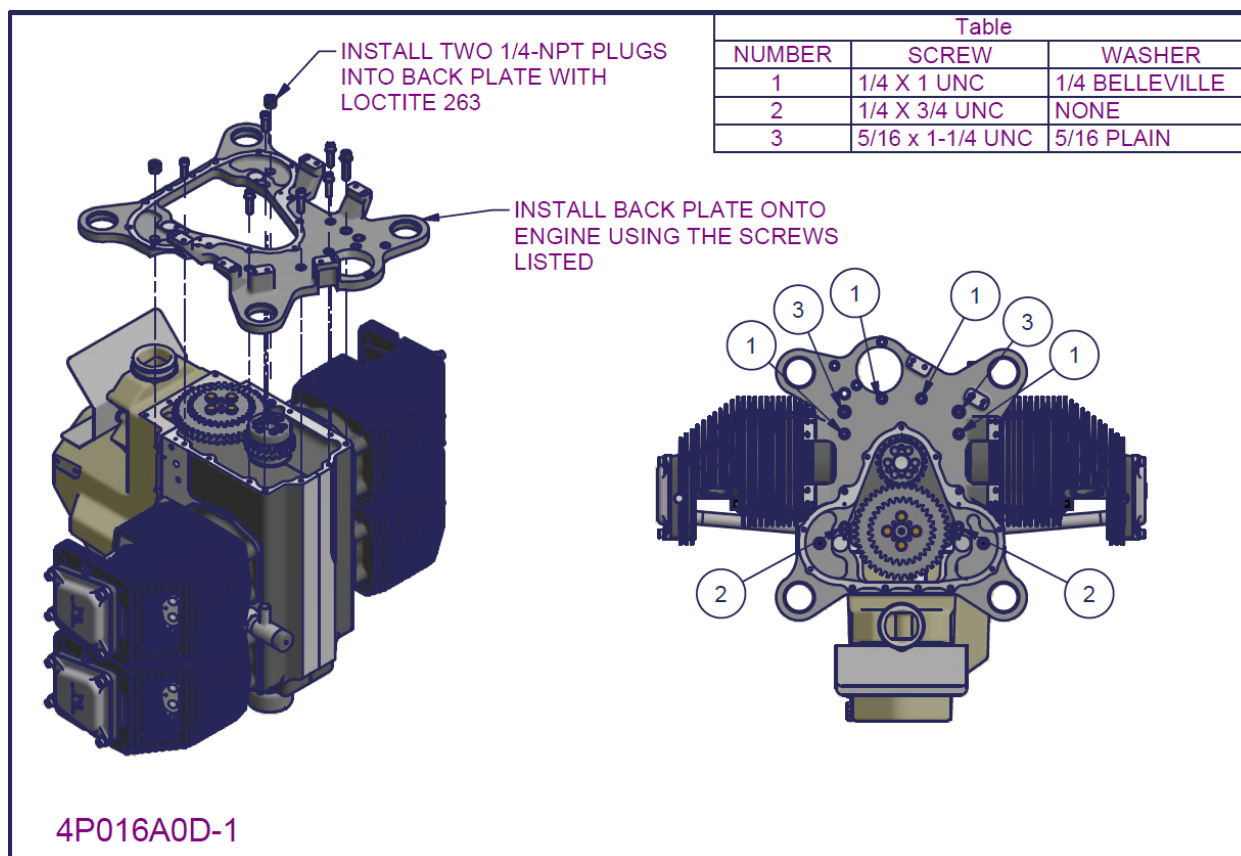

Figure 139 – 2200/3300 back plate and distributor gearbox installation 2
- The required screws and washers used are listing in Figure 139.